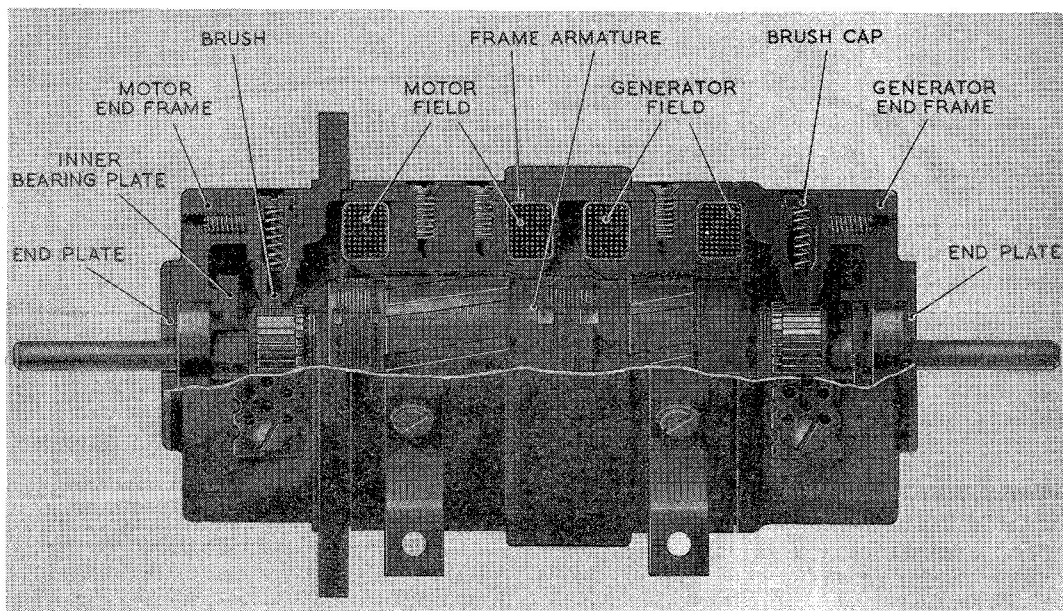
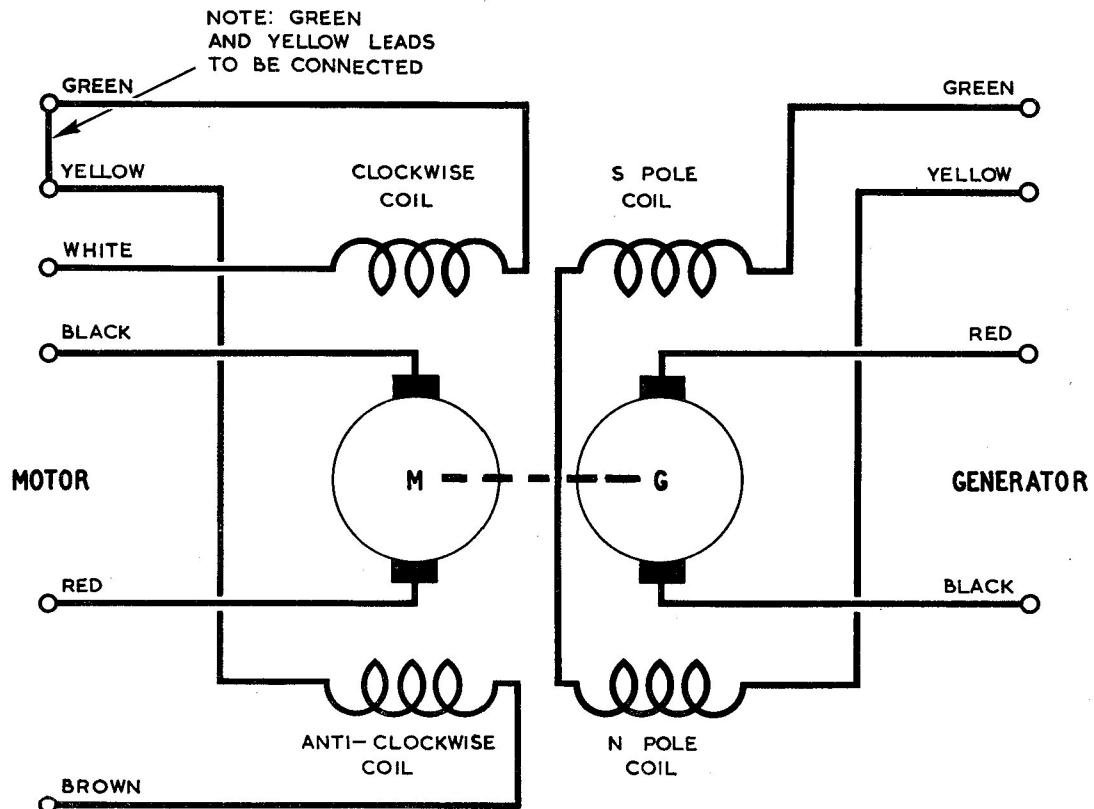

Fig. 2. Sectional view of rotary transformer
Fig. 3. Circuit diagram
2. The rotary transformer, Type 88X, incorporates a d.c. motor driving a d.c. generator. As can be seen in the sectional drawing in fig. 2, the two armatures are mounted on a common shaft, and the motor and generator fields are separately excited. The motor field system comprises two windings, arranged so that one winding is used for clockwise rotation and the other winding for anti-clockwise rotation. A circuit diagram is given in fig. 3.